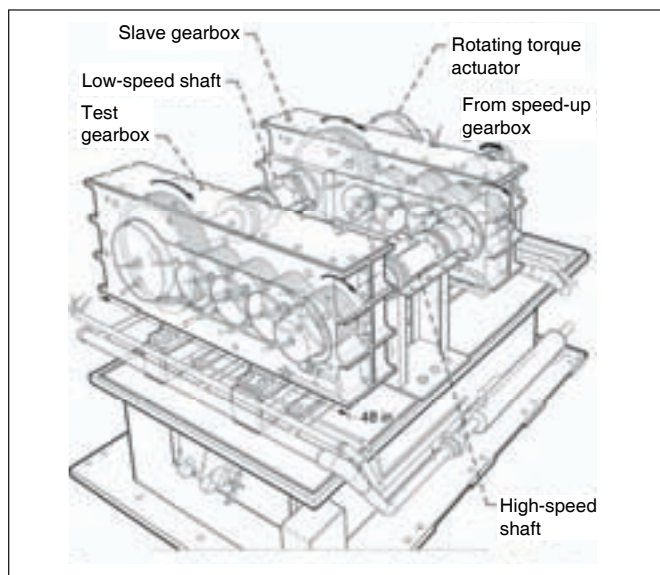

Figure 1—NASA High-Speed Helical Gear Train Test Facility.
**Test Facility.** The test facility used for this study is shown in Figure 1. The facility is a closed-loop, torque-regenerative testing system. There is a test gearbox and slave gearbox that are basically mirror images. Each gearbox has an input gear, three idlers and one bull gear. The gearboxes are joined together through the input gears and bull gears via shafting.